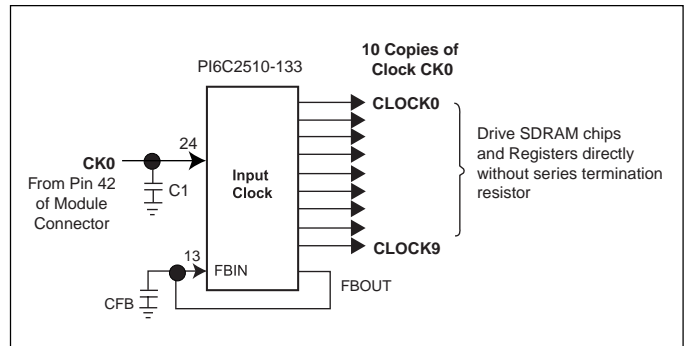

Figure 2. Block Diagram of PI6C2510-133
1. As a clock buffer for generating 10 copies of clock outputs from the single clock input CK0 at the DIMM edge connector (see Figure 2).